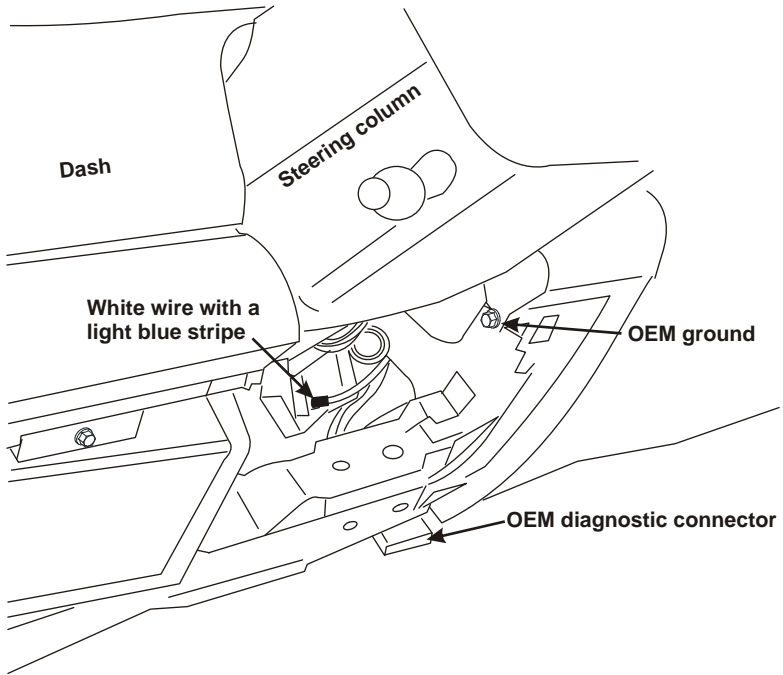

Figure 4.9
- For 2002-2004 models, the wire is white with a light blue stripe (Figure 4.9).
- Connect the OEM connector to the piggy-back connector (Figure 4.9).
- Route the wire to the vehicle park brake and connect the piggy-back connector to the switch (Figure 4.9).